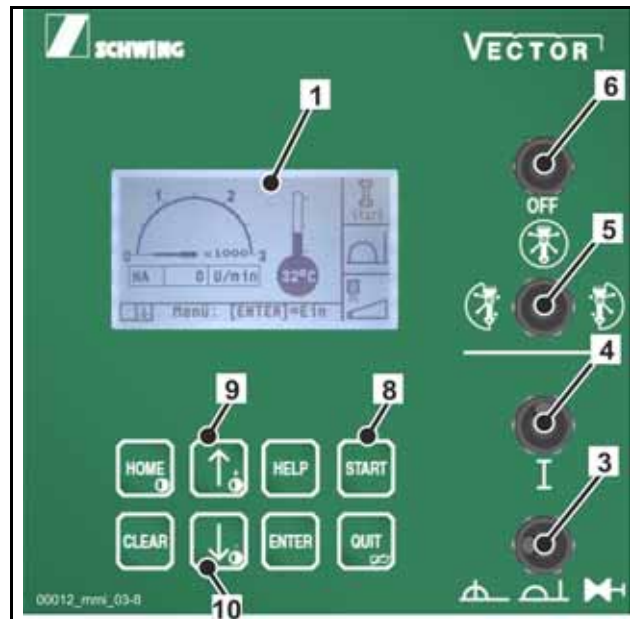

Fig. 420
- Then press the "START" button (8) (**Fig. 420**) to acknowledge the action and follow the menu prompts.